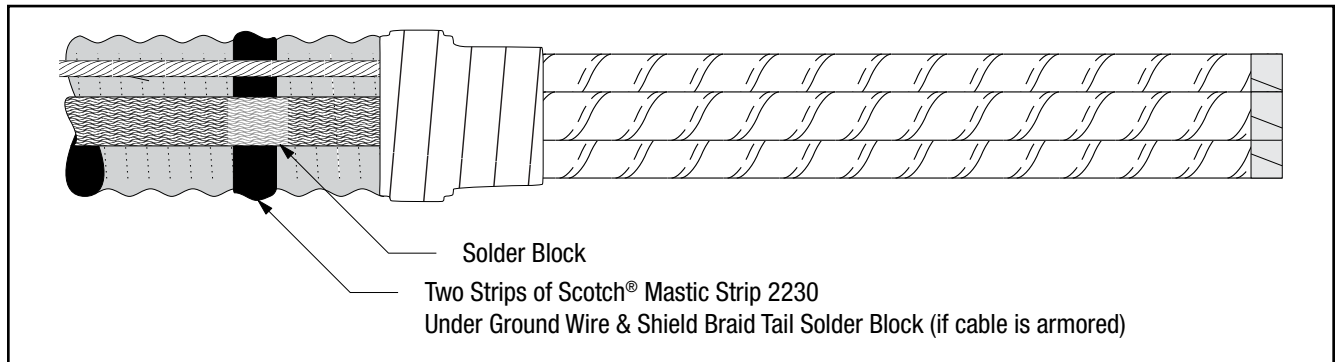

Figure 7
- 3.7 Wrap two strips of Scotch® Mastic Strip 2230 (one on top of the other) over the cable jacket. Locate the mastic strip directly under the shield braid solder block (if cable is armored) and ground wire (*Figure 7*).